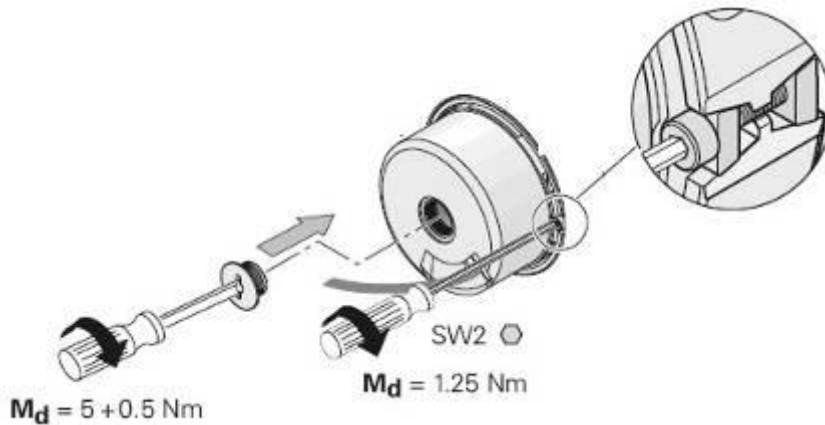

Figure 23: Final installation
4. Install the end cover, and then tighten it with hex wrench 4mm. Use torque wrench to tighten the bolt to 44 in-lbs (5 Nm). See Figure 23.
5. Tighten the Expansion screw with hex wrench (2mm) to 9 in-lbs (1.25 Nm). See Figure 23.